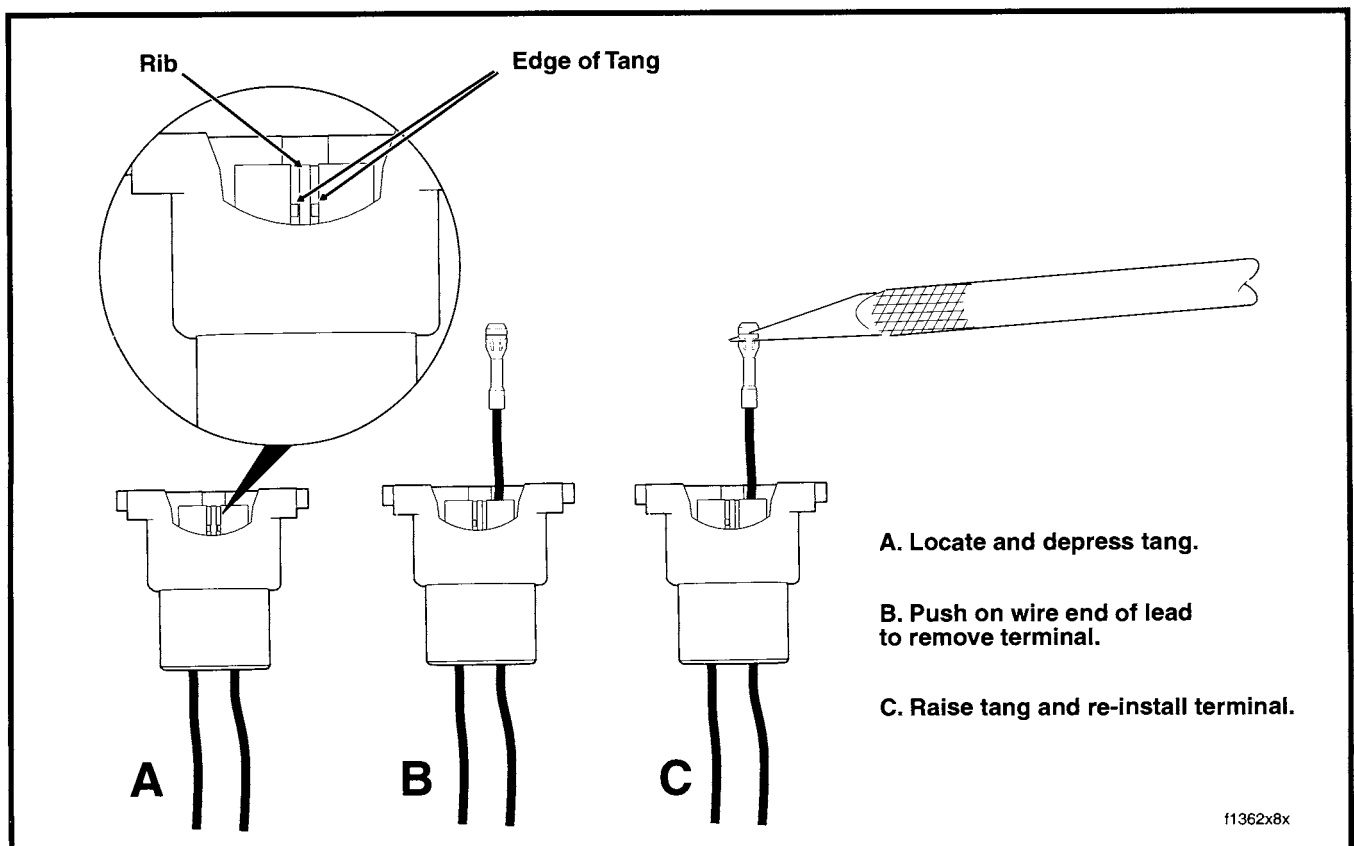

Figure 157. Depress Tang and Extract Terminal From Mating End of Connector
3. Looking at the center of the connector, note the plastic rib that separates the wire terminals. On each side of the rib, you can glimpse the edge of the terminal body at the front, while the edge of the tang can be seen at the rear. See A in Figure 157.
5. Push on the wire end of the lead to extract the terminal from the mating end of the connector. See B in Figure 157.
1. To install a terminal back into the chamber of the connector housing, use a thin flat blade, like that on an X-Acto knife, and carefully bend the tang outward away from the terminal body. See C in Figure 157.